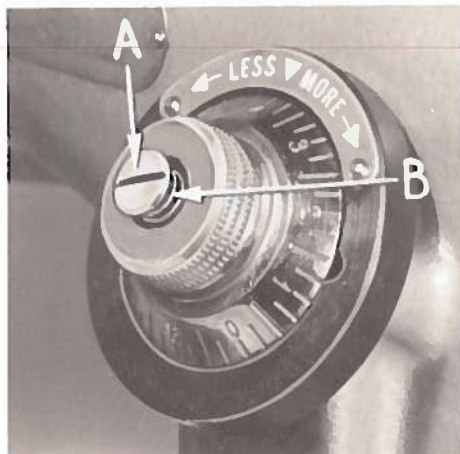

Fig. 9
2. Remove screw (A, Fig. 9) and spring (B).